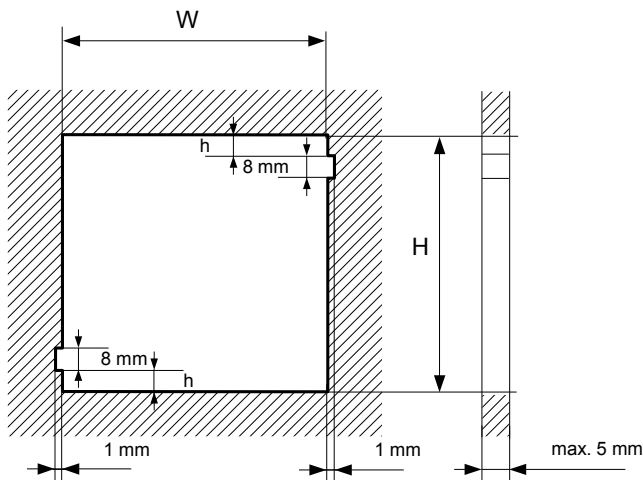
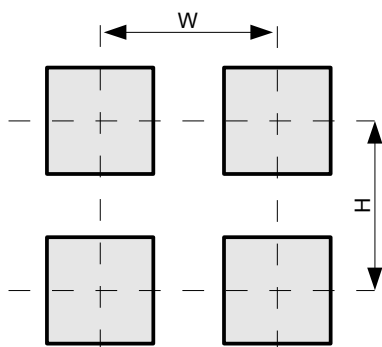
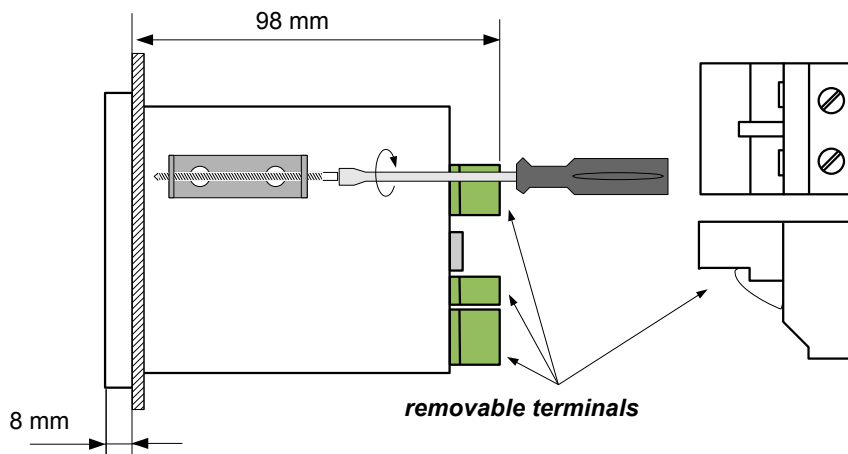

Fig. 4.2. Mounting hole dimensions
Fig. 4.3. Minimum distances to assemble a number of units
Fig. 4.4. Brackets installation
- In order to install the unit, a mounting hole must be prepared in accordance with **Fig. 4.2**. The thickness of the material the panel is made of must not exceed 5mm. While preparing the mounting hole take the grooves for catches located on both sides of the housing into consideration (**Fig. 4.2**). Place the unit in the mounting hole inserting it from the front side of the panel, and then fix it using the brackets (**Fig. 4.4**). The minimum distances between the centre points of multiple units - due to the thermal and mechanical conditions of operation - are shown in **Fig. 4.3**.